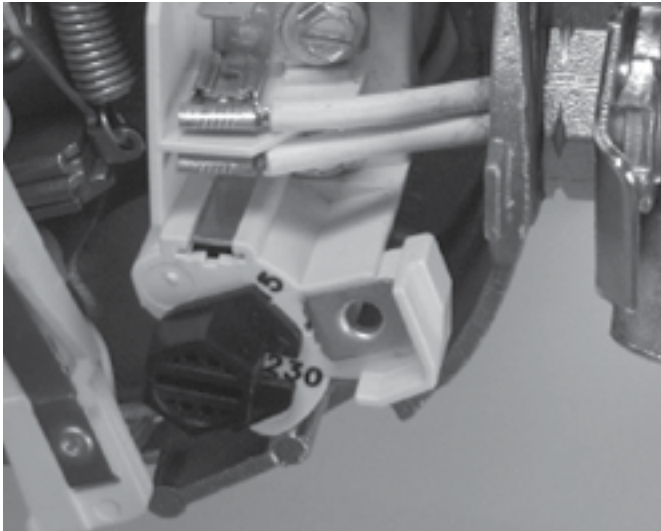

Figure 3: 230 Volt Setting
- Connect current carrying conductors to terminals L1 and L2 under motor canopy. When replacing motor, check wiring diagram on motor nameplate against Figure 3. If the motor wiring diagram does not match either diagram in Figure 3, follow the diagram on the motor.